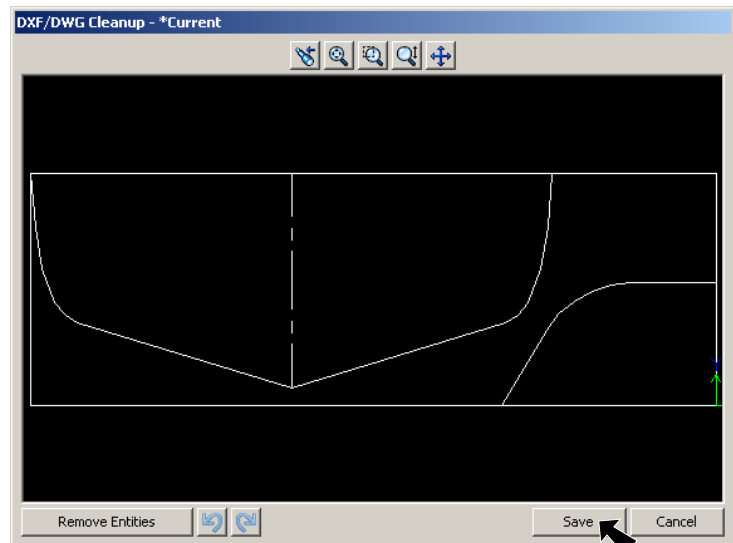

Fig. 49
Step 10. In the DXF/DWG Cleanup dialog box click **Save**, **Fig. 49**.